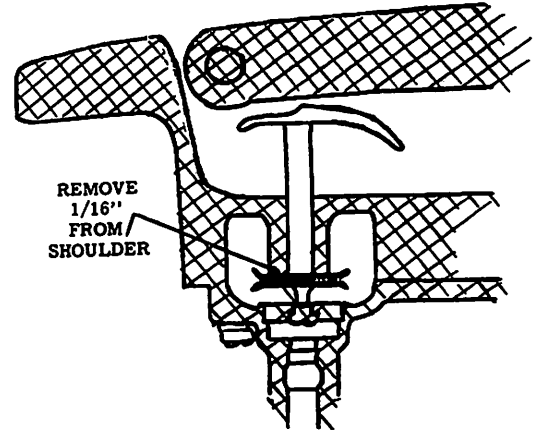

Figure 4. Spot Facing Shoulder
- a. Old system (press plunger down) may be converted to new system (pull plunger up) by installing a pressure relief system in handle base assembly of tank. (Figure 4)
- e. To save cost of a new handle base assembly (20448), spot face shoulder 1/16" (1.6mm). (Figure 4) *Shoulder must be relieved to accomodate new primer compression spring.*